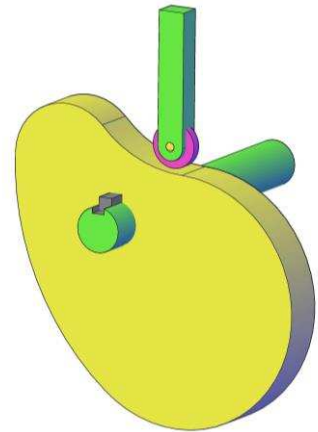

Figure 4a
4. An offset roller-ended follower operating on a plate cam is shown in Figure 4a. The line of action of the roller-ended follower is 25 mm to the right of the vertical centre-line of the cam and the roller follower is 20 mm diameter. The cam is to rotate in an anti-clockwise direction.